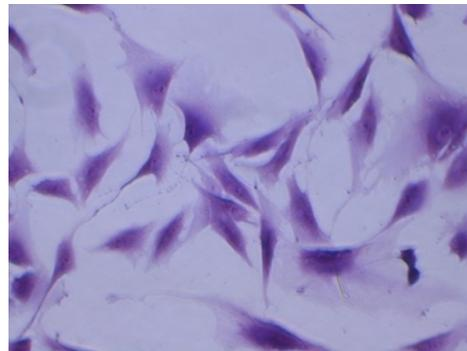

Figure 3. Rabbit endothelial cells cultured in BioFlex® plates and stained with crystal violet.
2. Other stains, such as crystal violet, Von Kossa for calcium phosphate or alizarin red for calcium may be used (Fig. 3).